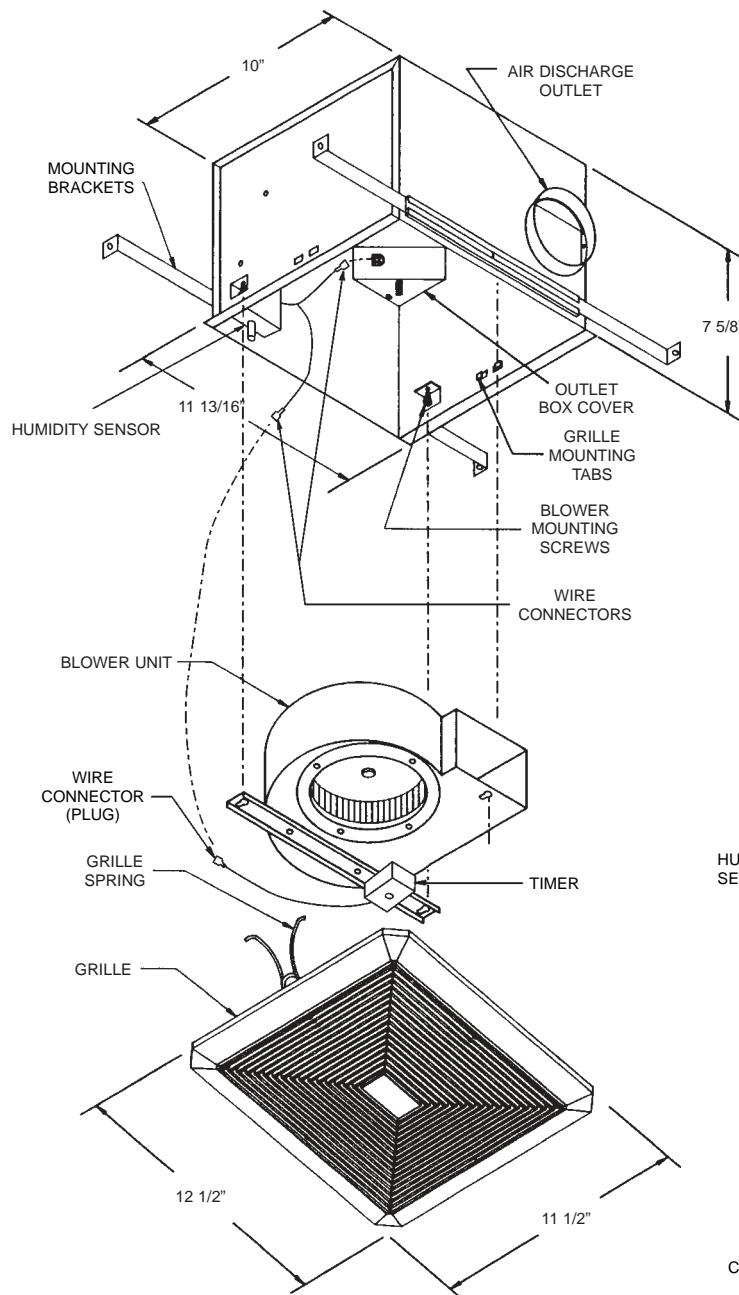

FIG. 8 MODELS:
2. Loosen three screws securing blower unit to housing and slide it toward outlet box. Carefully lift and tilt blower unit and remove from housing. Pull motor plug from receptacle. Pull humidity sensor plug from receptacle if applicable. See Figs. 8 & 9.
8. Push humidity sensor plug into receptacle, if applicable. Push blower motor plug into receptacle and carefully replace blower unit. Reverse procedure as noted. Tighten screws securely. See Figs. 8 & 9.
10. Squeeze spring on plastic grille and insert into tabs located in housing. See Figs. 8 & 9. Press grille firmly into place.